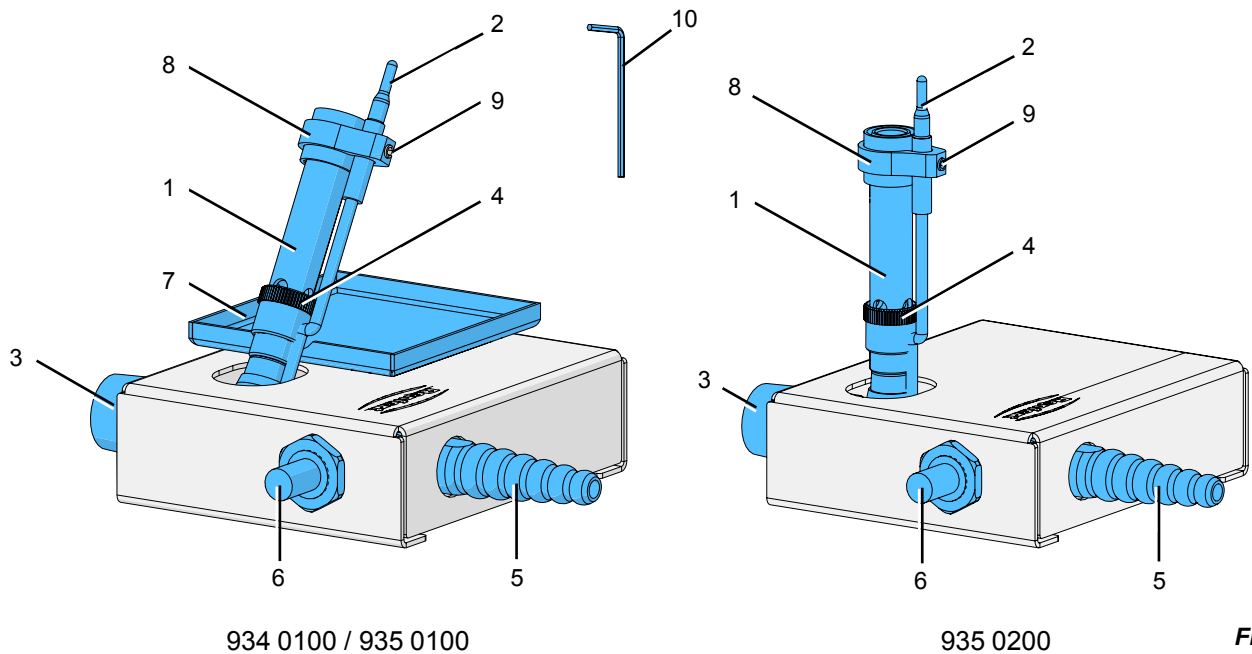

Fig. 1
- ▶ **Mixing tube (1, Fig. 1)**
- ▶ **Sensor holder (8, Fig. 1)**
- ▶ **Collection pan (7, Fig. 1)**